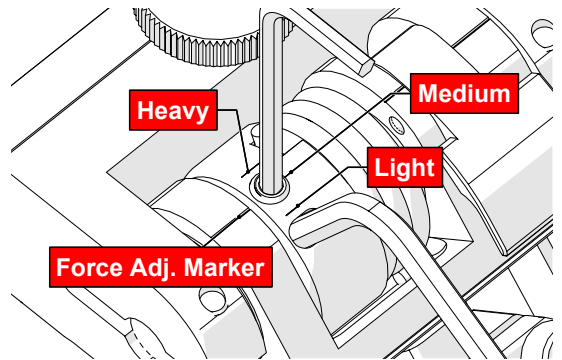

Fig. 102 - Choose desired tension
6. Gently apply pressure on the long leg of the 3 mm hex wrench until the force adjustment marker lines up with the desired spring tension. While keeping the markers in line, tighten the force adjustment screw (*Fig. 102*).